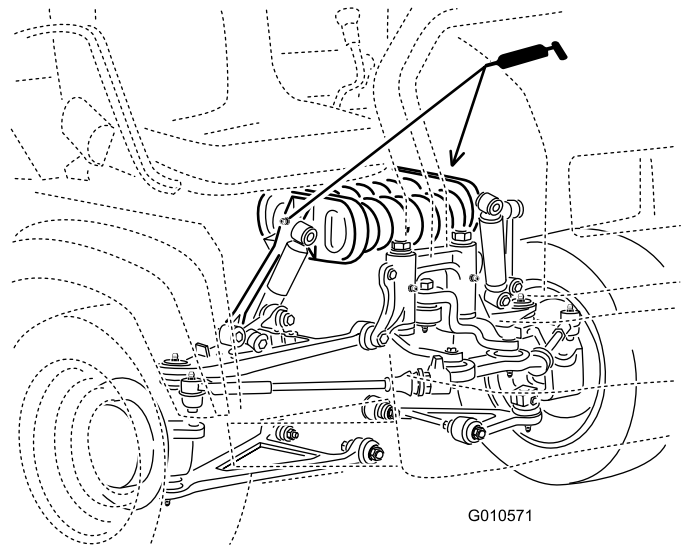

Figure 40
- Spring tower (2) (Figure 40)